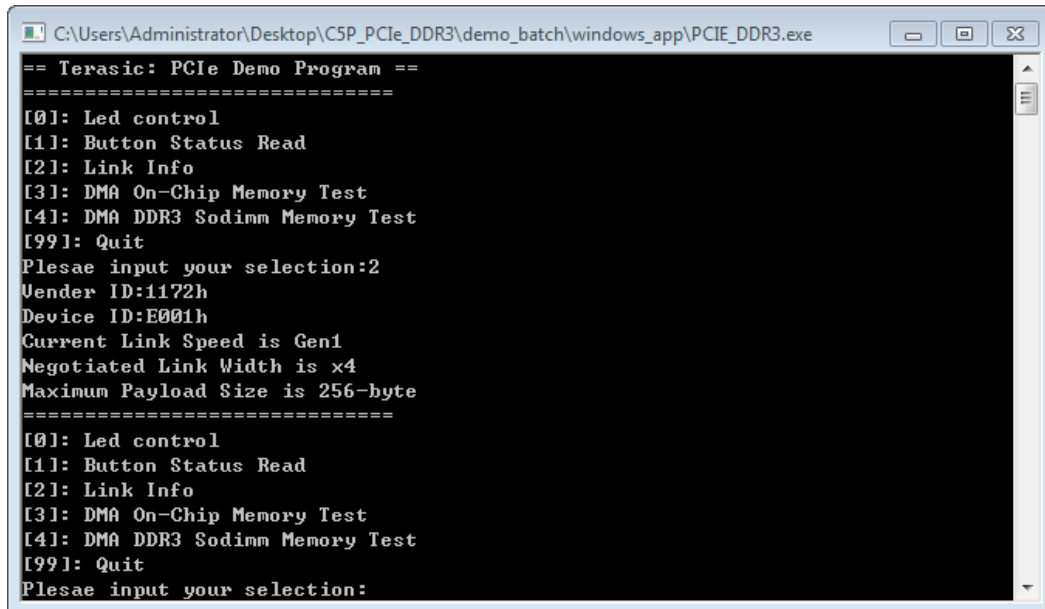

Figure 7-16 Screenshot of Link Info
6. Type 2 followed by the ENTER key to select the Link Info item. The PICe link information will be shown as in **Figure 7-16**.